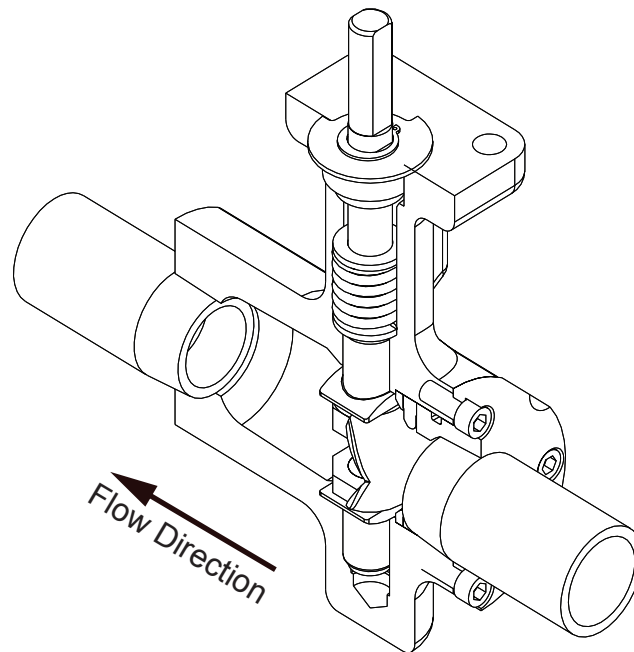

FIGURE 2
1. Figure 2 illustrates a threaded installation